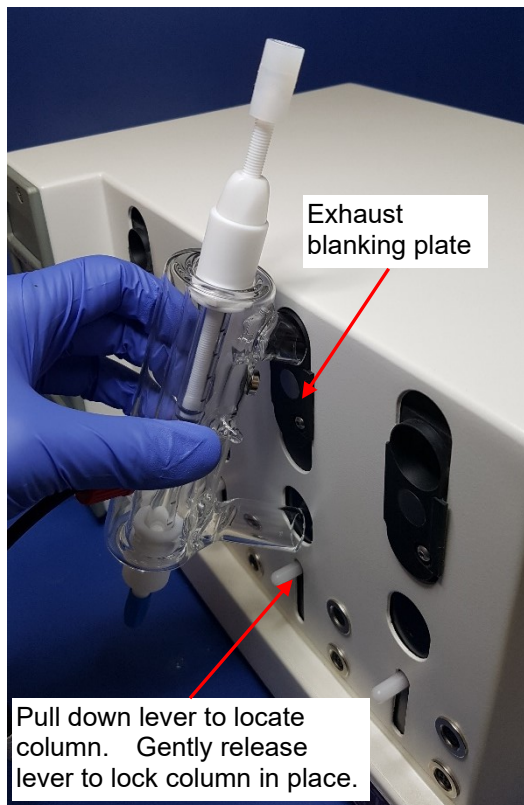
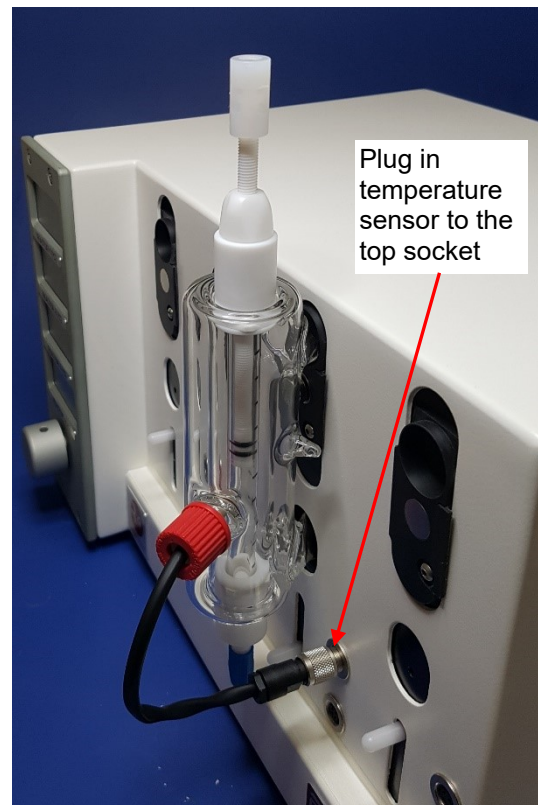

Figure 12 Insert Column Reactor (a)
Figure 13 Insert Column Reactor (b)
3. Plug the temperature sensor into the socket provided to the right of the column position and turn to tighten (see Figure 12 and Figure 13).